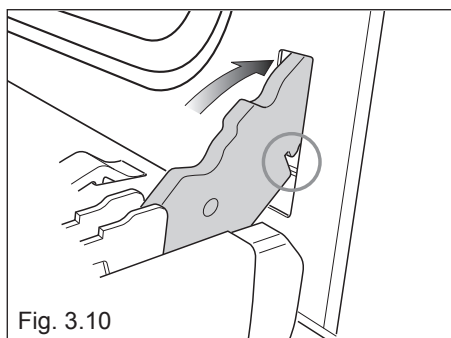

Fig. 3.10
2. Insert the hinge tongues into the slots, making sure that the groove drops into place as shown in the figure 3.10.